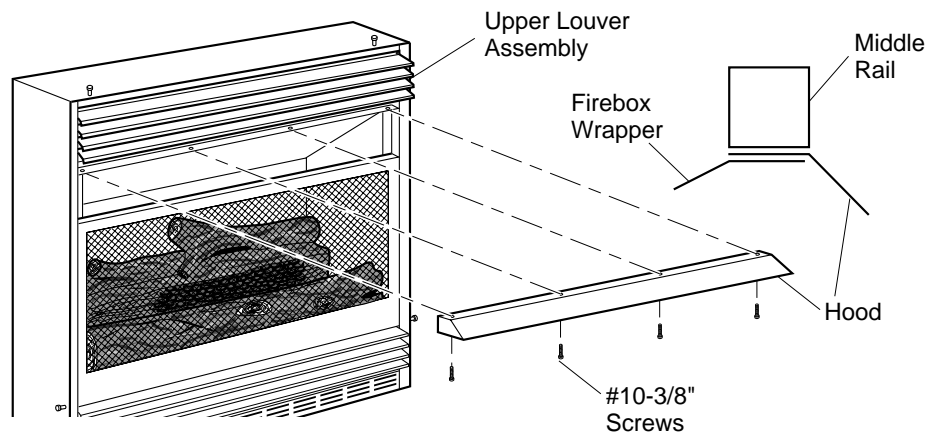

Figure 3 - Assembling Hood
2. Slip top of hood between middle rail and top of firebox wrapper (see Figure 3).
3. Attach four #10-3/8" hood screws as shown in Figure 3.